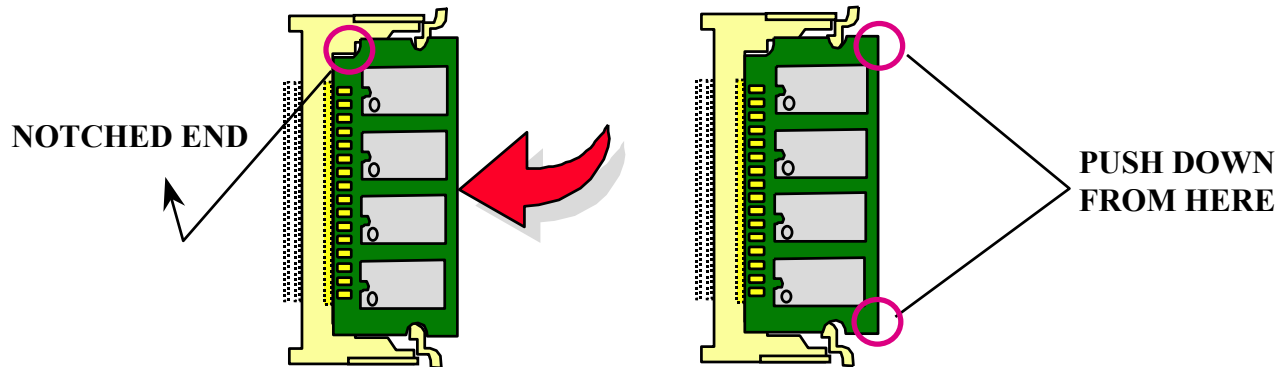

FIGURE 12-2
1. TO INSTALL THE DIMM, ALIGN THE DIMM S NOTCHED END WITH THE SOCKET S CORRESPONDING END AND FIRMLY INSERT THE DIMM INTO THE SOCKET AT AN ANGLE. THEN PUSH DOWN UNTIL THE RETAINING CLIPS LOCK THE DIMM INTO POSITION. (FIGURE 12-2)